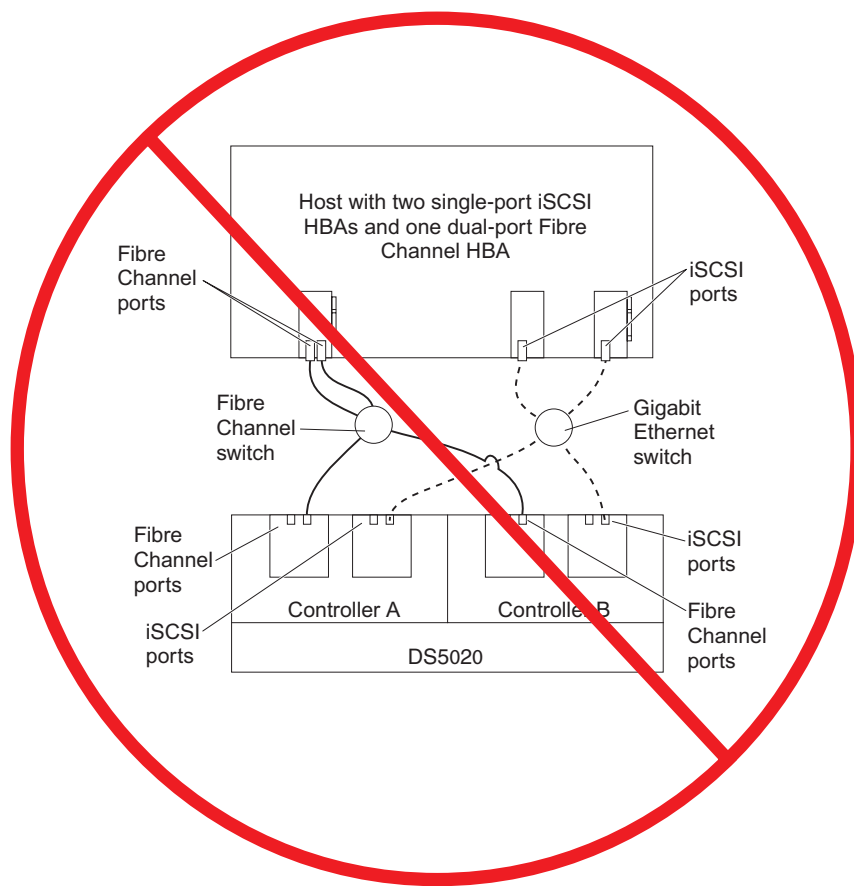

Figure 64. Example of an incorrect configuration: Single-host, iSCSI and Fibre Channel
- Example of an incorrect configuration: Single-host, iSCSI and Fibre Channel, as shown in Figure 64 on page 93
Figure 64 shows an incorrect configuration of a single host with both iSCSI and Fibre Channel connections.
Important: Do not cable the storage subsystem and host systems as shown in Figure 64. A storage subsystem with the incorrect storage topology might appear to be functional, but incorrect cabling can potentially have unpredictable results.